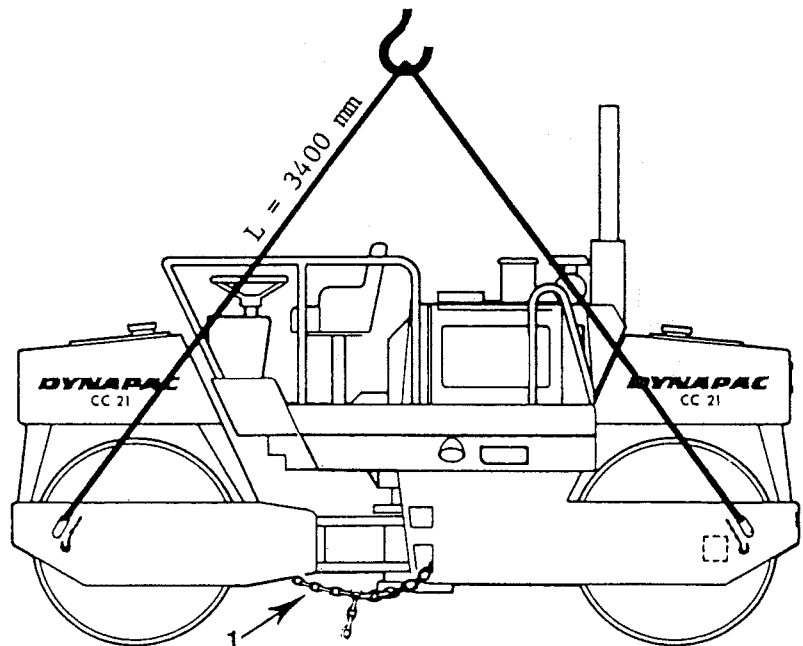

Fig 26 Lifting
Lock the front and rear frame sections by means of the chains (1) provided in the toolbox. See fig. 26.